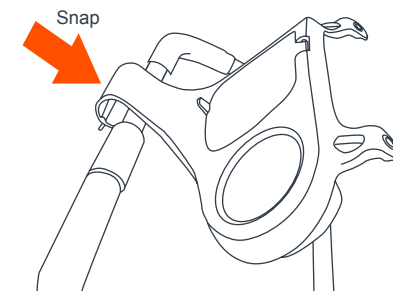

Fig. 7a
- Snap the upper portion of the tray over the handle (Fig. 7a).